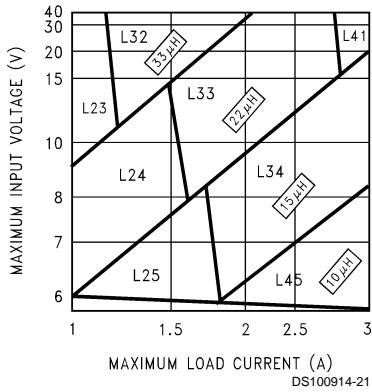
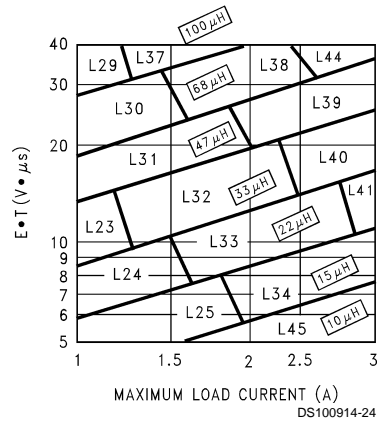

FIGURE 3. LM2676-3.3
FIGURE 6. LM2676-ADJ
Step 3: Determine the inductor required by using one of the four nomographs, *Figure 3* through *Figure 6*. Table 1 provides a specific manufacturer and part number for the inductor.
Step 5: Determine an input capacitor from Table 4 for fixed output voltage applications. Use Table 2 to find the specific capacitor type. For adjustable output circuits select a capacitor from Table 2 with a sufficient working voltage (WV) rating greater than $V_{in\ max}$, and an rms current rating greater than one-half the maximum load current (2 or more capacitors in parallel may be required).
Step 3: Use the nomograph for the 3.3V device, *Figure 3*. The intersection of the 16V horizontal line ($V_{in\ max}$) and the 2.5A vertical line ($I_{load\ max}$) indicates that L33, a 22 μ H inductor, is required.
Step 3: To use the nomograph for the adjustable device, Figure 6, requires a calculation of the inductor Volt•microsecond constant (E•T expressed in V•μS) from the following formula:
Using Figure 6, the intersection of 27V•μS horizontally and the 2A vertical line (I_{load} max) indicates that L38, a 68μH inductor, should be used.
Important Note: When using the adjustable device in low voltage applications (less than 3V output), if the nomograph, Figure 6, selects an inductance of 22μH or less, Table 6 does not provide an output capacitor solution. With these conditions the number of output capacitors required for stable operation becomes impractical. It is recommended to use either a 33μH or 47μH inductor and the output capacitors from Table 6.